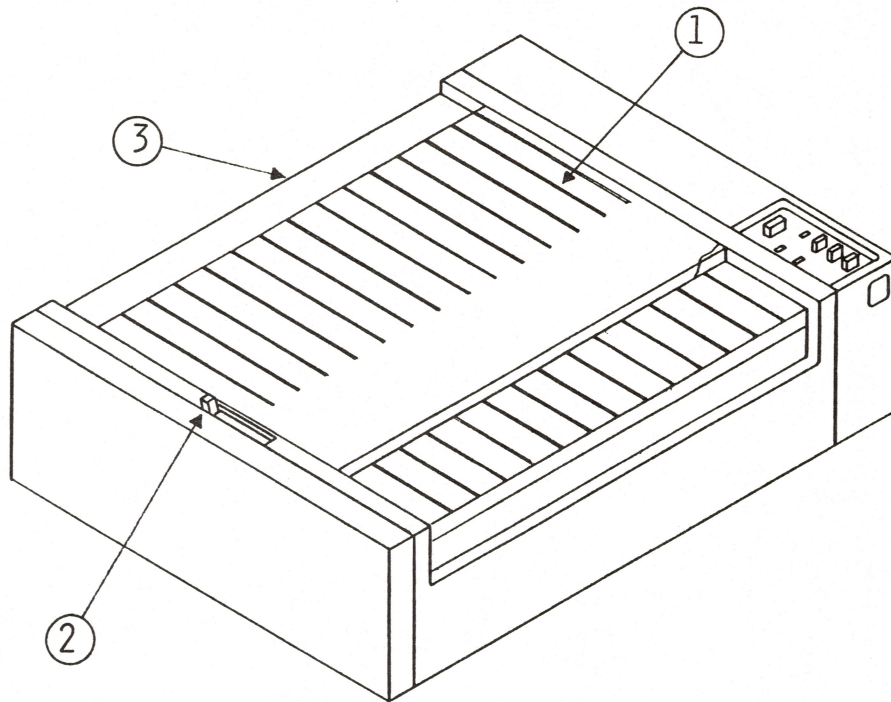

FIGURE 1
2. Raise the print cover toward you (see Figure 1, #1).
3. Pull the paper release lever forward (see Figure 1, #2).
4. Lift up and remove the paper cover (see Figure 1, #3).